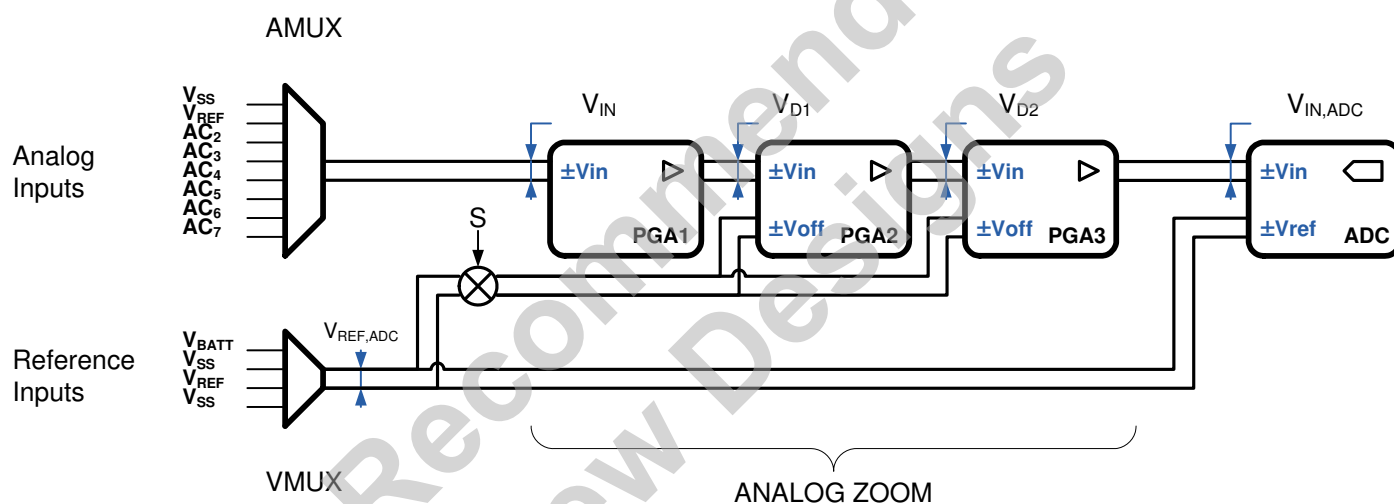

Figure 11. ZADC General Functional Block Diagram
**Figure 11, page 17** shows the general block diagram of the acquisition chain (AC). A control block (not shown in **Figure 11**) manages all communications with the SPI peripheral. The clocking is derived from the internal 4 MHz Oscillator.
As seen in Figure 11, page 17, the zooming function is implemented with three programmable gain amplifiers (*PGA*). These are: